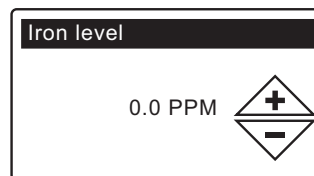

FIG. 23
- 9. IRON LEVEL** Press the UP ▲ or DOWN ▼ buttons to set the value for iron in your water (See Figure 23).